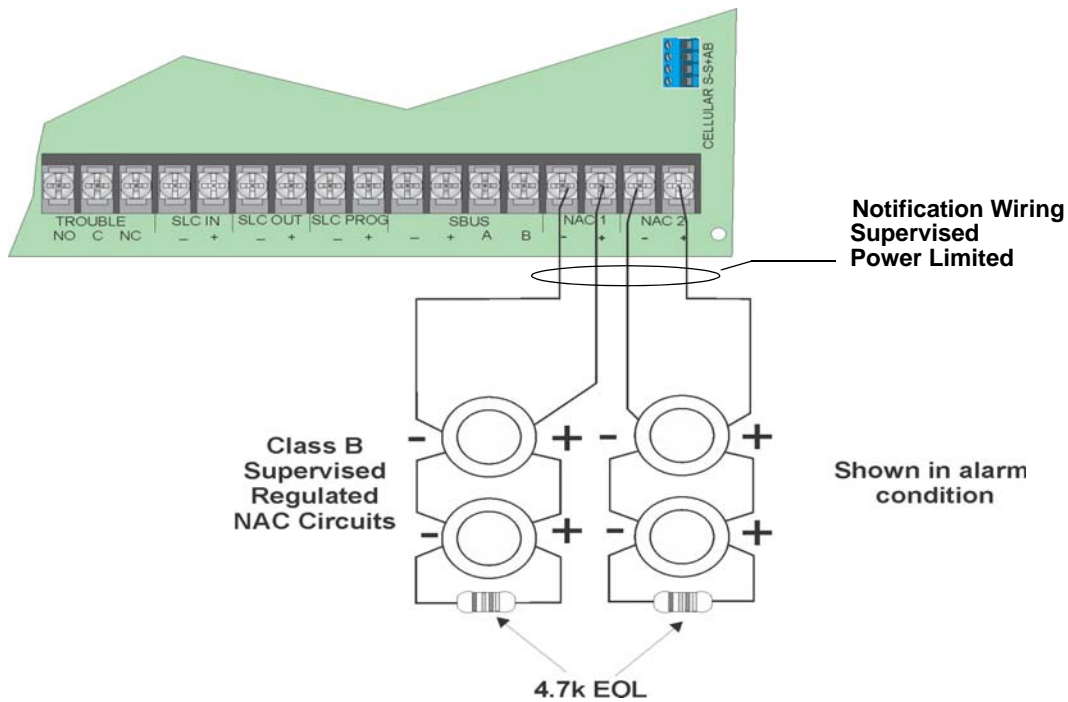

Figure 4-43 Class B Notification Appliance Circuit Wiring
1. Wire Class B Notification appliances as shown in Figure 4-43.